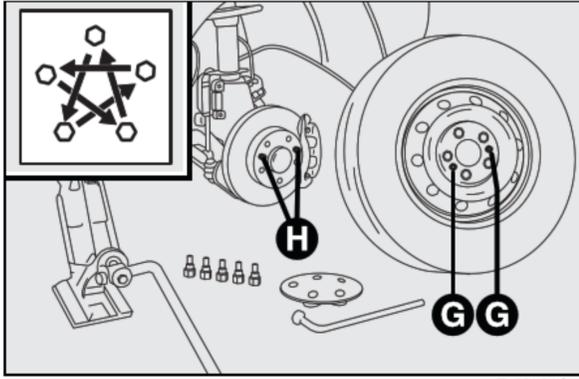

fig. 9
- fit the spare wheel making the holes **G-fig. 9** coincide with the respective pins **H**. Make sure the contact surfaces between spare wheel and hub are clean so that the fastening bolts will not come loose;
- fasten bolts completely, working in a criss-cross fashion as shown in **fig. 9**.